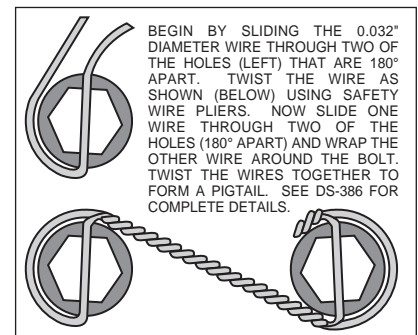
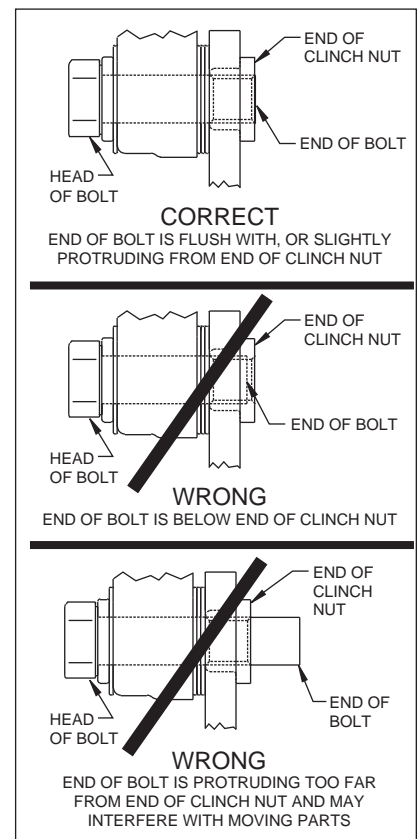

Figure 4. Safety Wire Diagram
Figure 5.
Assembly Instructions (numbers in parenthesis refer to the part list/diagram on the preceding page): **CAUTION:** All mounting bolts must fully engage insert nuts. Be sure to check that all bolts are either flush or protruding through flanged side of insert nut after shimming, Figure 5.
- With the slot pointing upward and the mounting ears pointing towards the rear of the vehicle, install the caliper mounting bracket (1) to the housing flange using the stock Original Equipment Manufacturer (OEM) bolts and nuts. Stock OEM hex nuts that retain the bracket (1) should be on the wheel side of the bracket. Apply red *Loctite*® 271 to the stock OEM bolt threads and torque to OEM specifications. **NOTE:** Some brackets act as the bearing retainers, while others help locate the bearing in the axle housing flange. If the stock bearing plates are still on the axle, the caliper mounting brackets (1) should be located between the axle housing flange and the bearing retainer plate. Make sure the heads of the caliper mounting bracket insert nuts are FACING OUTWARD TOWARDS THE WHEEL.
- Bolt the hat (2) to the rotor (3) using washers (4) and bolts (5). Torque bolts (5) to 180 in-lb. Safety wire bolts (5) using standard 0.032 inch diameter stainless steel safety wire as shown in Figure 4. Please refer to Wilwood's data sheet DS-386 (available at www.wilwood.com/Pdf/DataSheets/ds386.pdf) for complete safety wire installation instructions.
- Align the correct hole pattern in the hat (2) with the stud pattern on the axle flange. **NOTE:** Some OEM and after market axles come with stud sizes larger than 0.50" diameter. Verify stud size and have a qualified machine shop drill the hats to the correct size. Slide the hat/rotor assembly (2 and 3) over the wheel studs and against the axle flange face.
- NOTE:** Please reference the caution statement at the beginning of the assembly instructions. WITH THE BLEED SCREWS POINTING UP, mount the caliper (6) over the rotor (3) and onto the caliper mounting bracket (1) using washers (7) and mounting bolts (8). View the rotor through the top opening of the caliper. The rotor should be aligned in the center of the caliper. If not, adjust the caliper by using 0.032 inch shim washers (9), placing them between the caliper mounting bracket (1) and the caliper (6). Add as many shim washers (9) as necessary to achieve the correct alignment. **NOTE:** The end of the bolt must be flush with or slightly protruding from the head of the clinch nut. See Figure 5. Place spare shims (9) between washer and caliper mounting ear to achieve the proper mounting fastener configuration. Always use the same amount of shims on both the top and bottom caliper mounting bolts (8). Apply red *Loctite*® 271 to the mounting bolt threads (8), torque bolts to 30 ft-lb. Safety wire the caliper mounting bolts (8).
- Position the Wilwood disc brake pads (10) into the caliper (6) and fasten with cotter pin (11). Steel backing plate side of brake pad should face the caliper pistons.